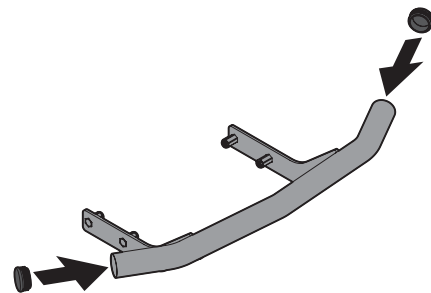

Figure 3
1. Place a bumper cap onto each end of the front bumper tube. See Figure 3.